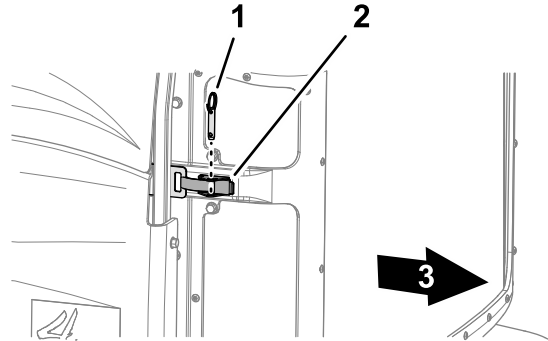

Figure 63
2. Remove the ball pin from the screen latch (Figure 63)